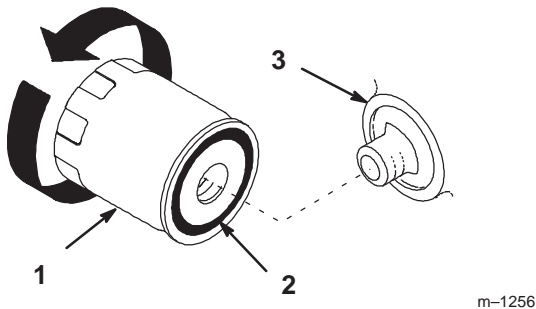

Figure 27
2. Remove the old filter and wipe the filter adapter (Fig. 27) gasket surface.
4. Apply a thin coat of new oil to the rubber gasket on the replacement filter (Fig. 27).
5. Install the replacement oil filter to the filter adapter. Turn the oil filter clockwise until the rubber gasket contacts the filter adapter, then tighten the filter an additional 1/2 turn (Fig. 27).